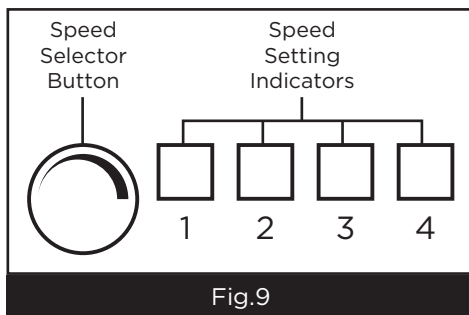

Fig.9
2. Press the speed selector button and choose the speed setting you require, Fig.9.